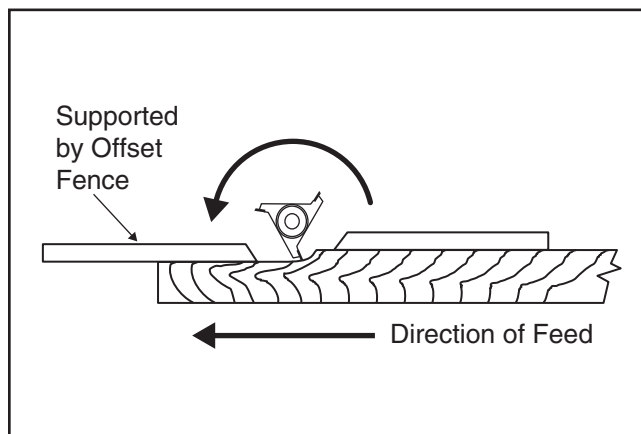

Figure 32. Example of supporting the workpiece with a full face cut.
7. When the cutter comes to a complete stop, adjust the outfeed fence to support the profiled edge (see **Figure 32**).